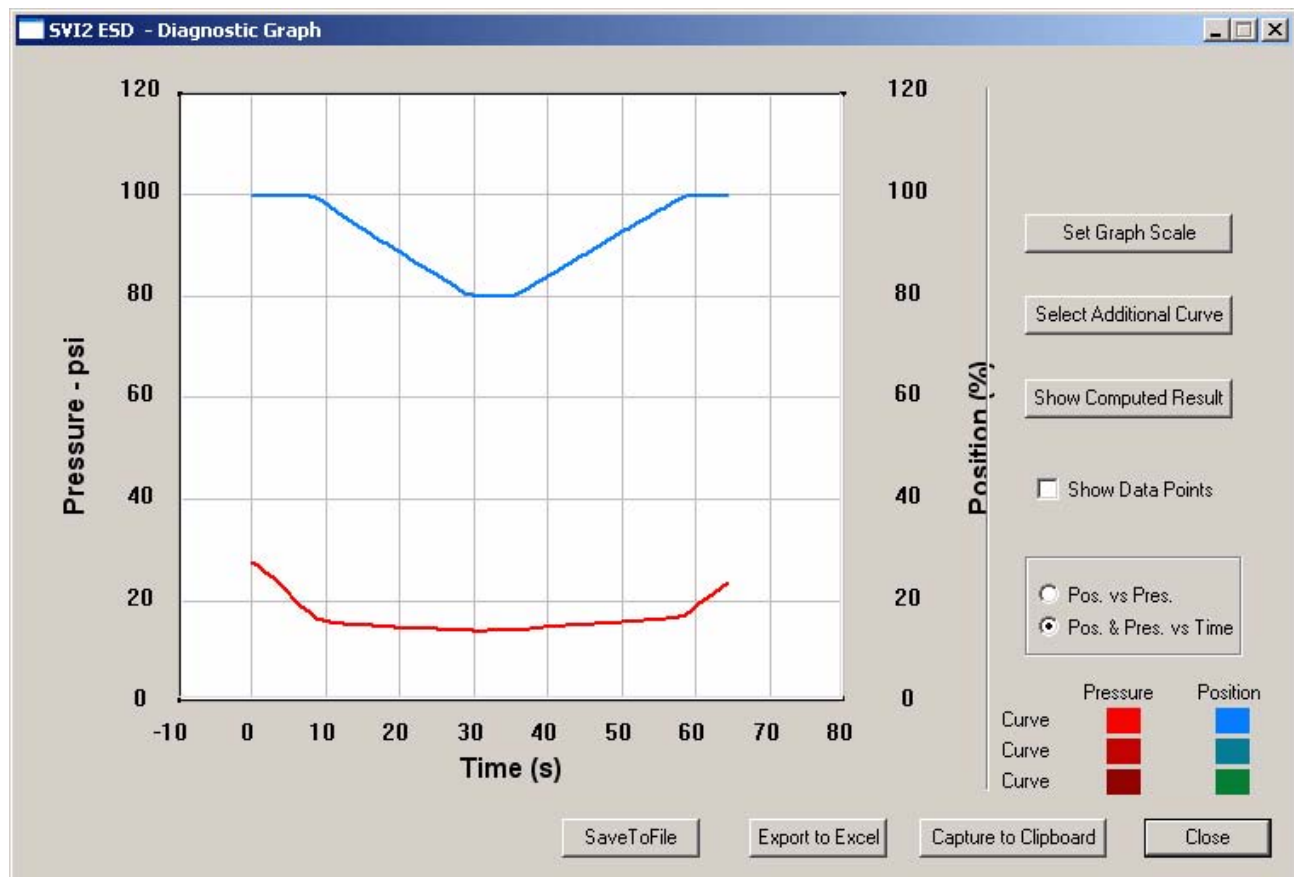

Figure 247 Position and Pressure vs. Time View
- ❖ Pos. & Pres. vs Time - Position and Pressure vs. Time, an additional view displayed above the Position vs Pressure view, that displays the ramp down and up of the PST, and is represented by the blue curve as shown in Figure 247 below.